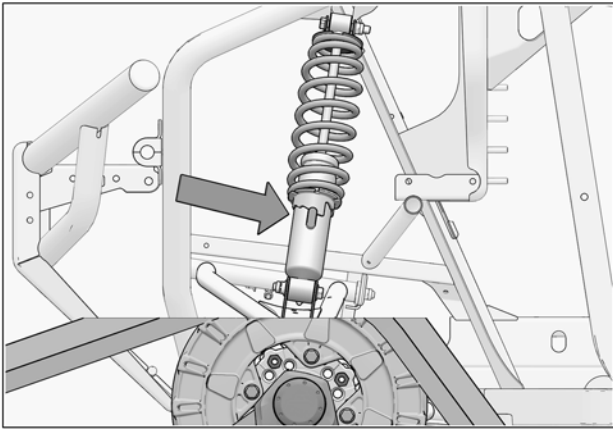

Fig. 25
1. Verify the suspension settings. If the shock absorbers are adjustable, adjust them to the stiffest setting to allow for maximum clearance between the System and the vehicle's fenders. See Fig. 25